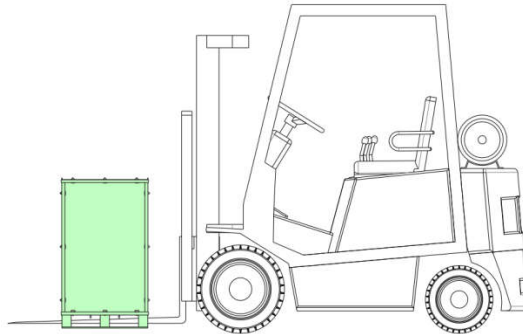

Figure 3-1 Transport to the designated site
2. Transport the equipment to the designated site by forklift, as shown in Figure 3-1.